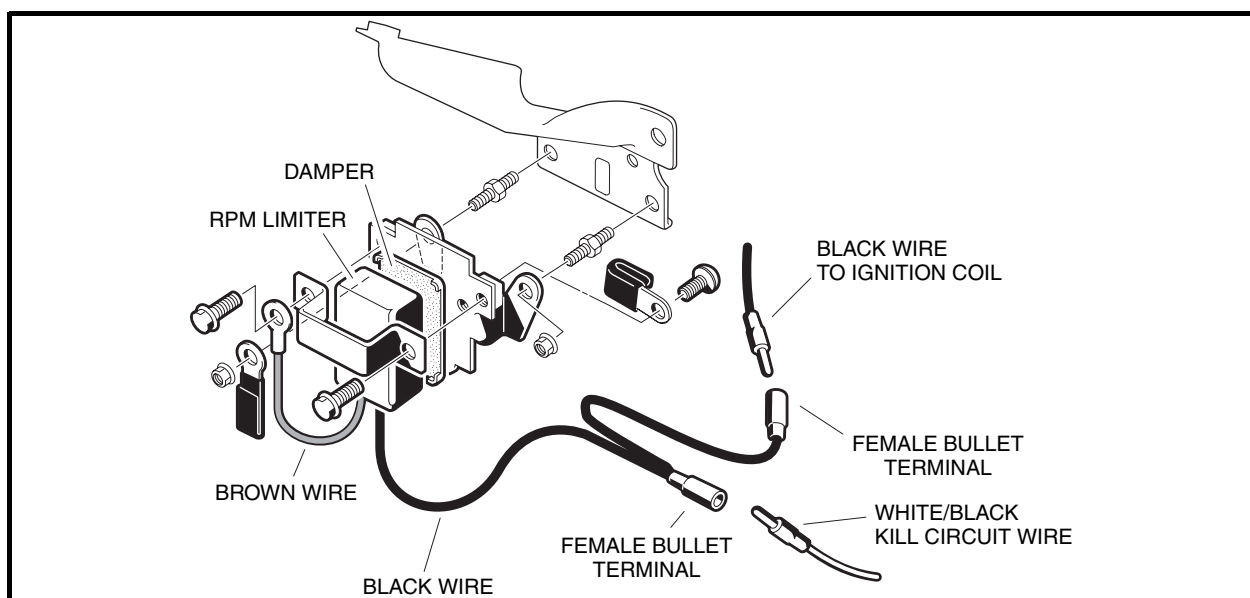

Figure 13-23 RPM Limiter Assembly
3. Disconnect the white/black wire from the black wire at the bullet connector located near the RPM limiter (**Figure 13-23, Page 13-23**).
5. Remove the flange head bolts from the RPM limiter band and remove the RPM limiter and damper (**Figure 13-23, Page 13-23**).
2. Place the RPM limiter with damper on the front of the RPM limiter mounting bracket (**Figure 13-23, Page 13-23**).